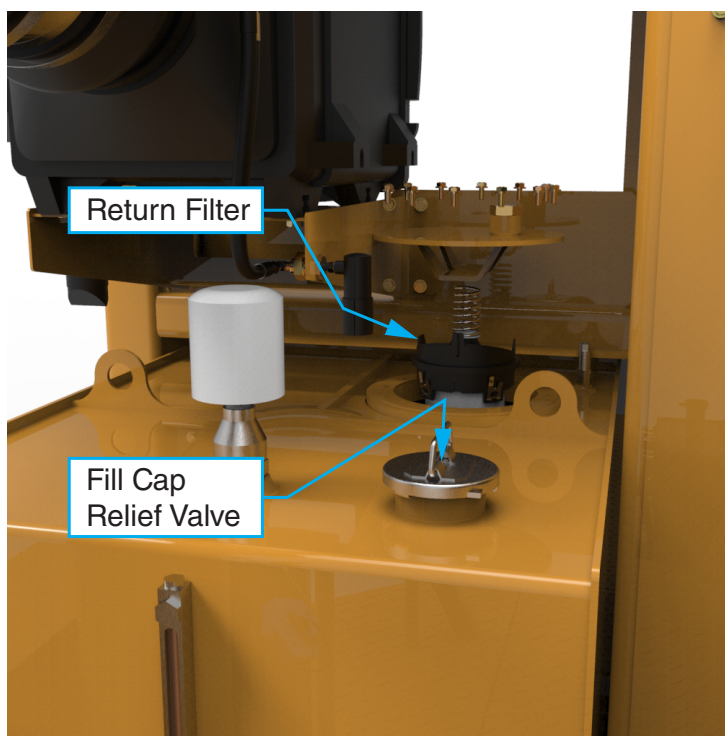

Figure 3 Hydraulic Tank - Return Filter
The return filter is accessed from the deck on the right side of the machine. See Figure 3.
1. Shut down the machine and vent captive pressure by pressing down on the relief valve at the center of the fill cap. See Figure 3.